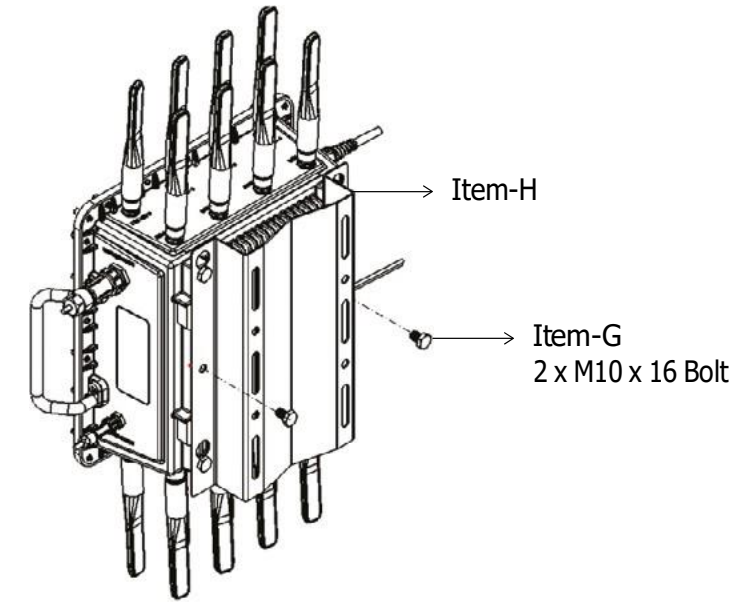

Figure 20: Securing the device
- c. After the hyperSPROUT™ smarthub or hyperHUB™ access point bolts are in the mounting bracket slots and locked, install 2 M10x16 bolts (Item-G) through the mounting bracket holes and into the hyperSPROUT™ smarthub or hyperHUB™ access point to secure the install as shown in *Figure 20*.